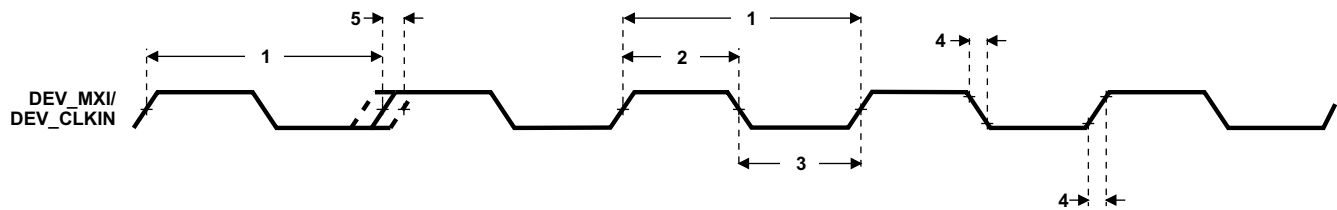

Figure 6-15. DEV_MXI/DEV_CLKIN Timing
Table 6-12. Timing Requirements for DEV_MXI/DEV_CLKIN^{(1) (2) (3) (4)} (see Figure 6-15)